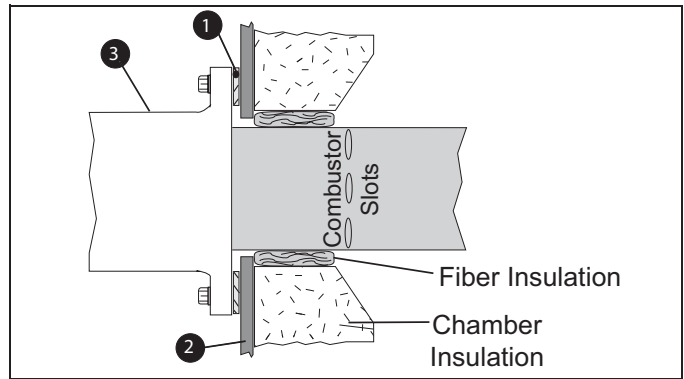

Figure 3.4 Alloy Combustion Tube
1. Be sure gasket ① is installed between burner ③ and chamber wall ②. See Figure 3.4.
2. Pack fiber insulation around the tube to a depth not beyond the combustor slot position, as shown in Figure 3.4.